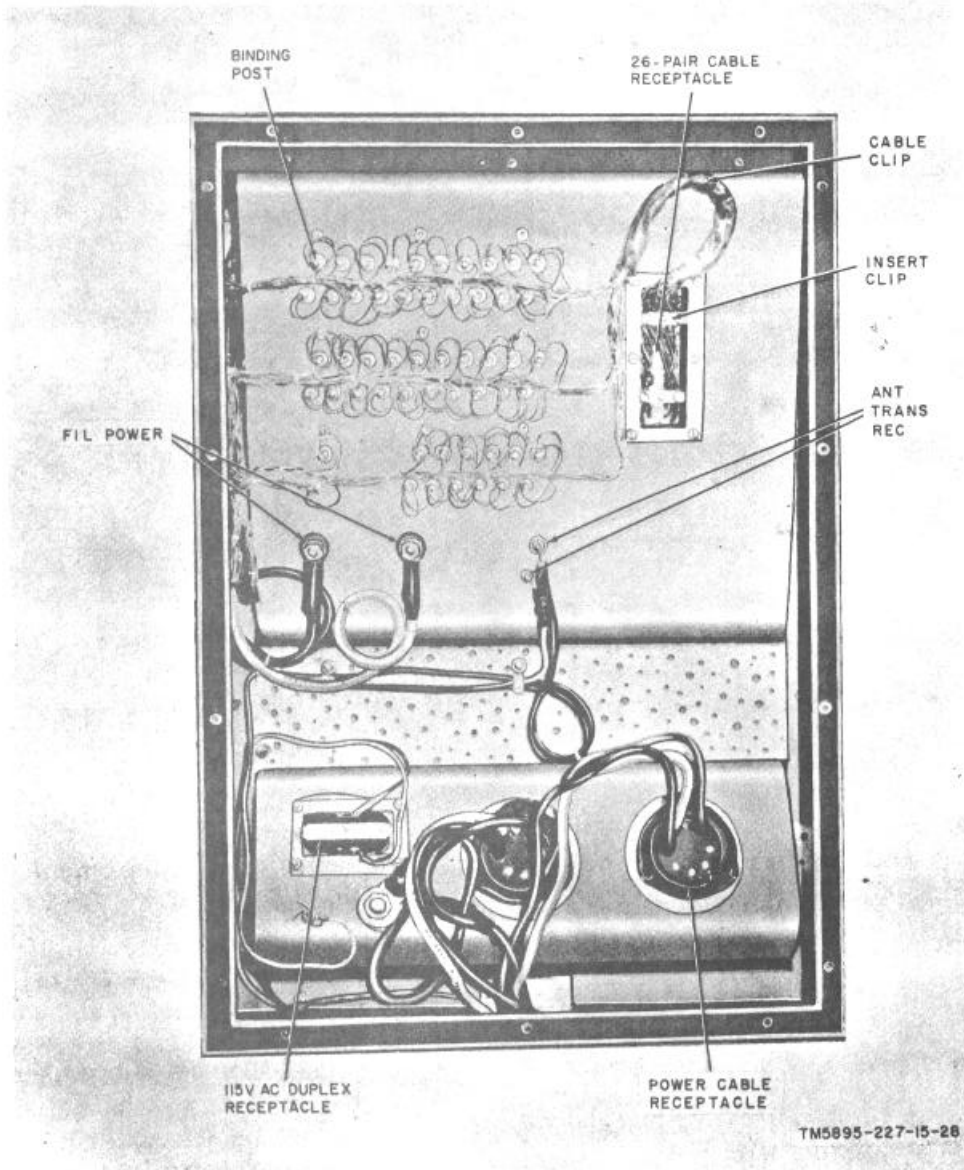

Figure 39. Power and signal entrance panel, cover removed.
- (2) Remove the screws that secure the insert clips (figs. 39 and 40).
- (3) Unfasten the cable clip nearest the 26pair cable receptacle mounting (fig. 39).